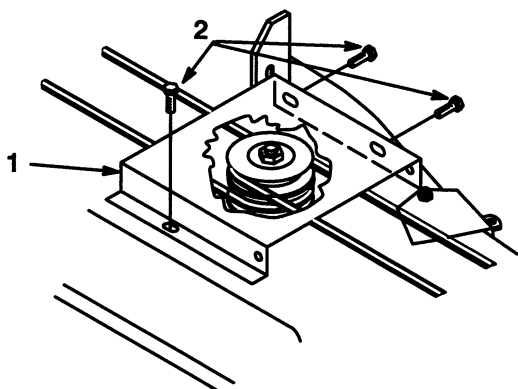

Figure 20
22. On 42" mowers mount belt cover loosely to the outside of the belt cover bracket and top of the mower using (3) 1/4 x 1/2" flange screws (Fig. 20).